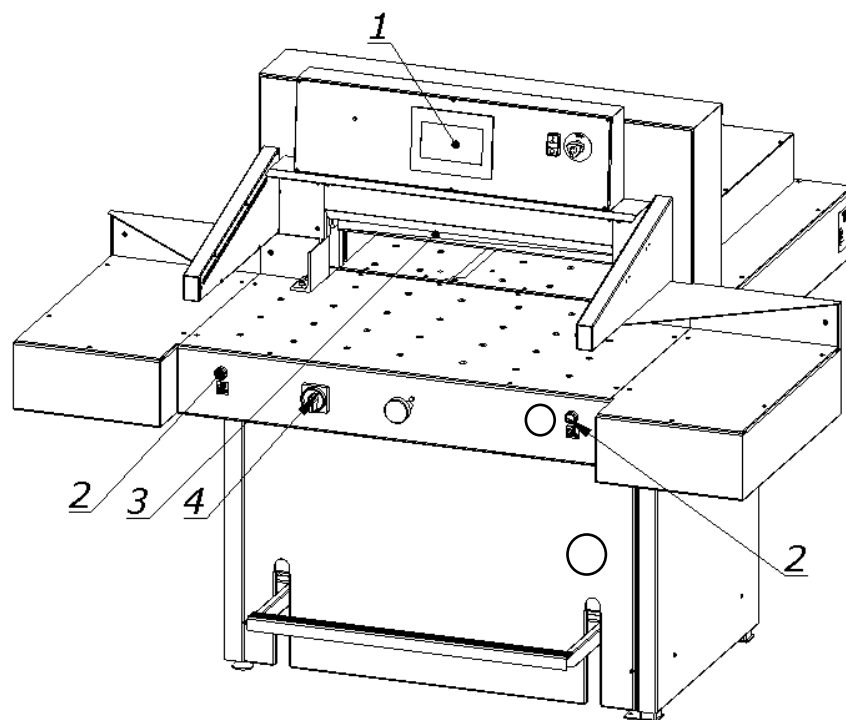

Figure 21.
8.1.1.1 Select the "knife change" function on the programmer 1 screen (fig.21) ("programming manual").
8.1.1.2 Pressing the push buttons 2  (fig.21) at the same time, start the cutting cycle. The knife 3 is held in the lower position
8.1.1.3 Switch off the power supply of the electrical system by turning the main switch knob 4 (fig. 21) to the "0" position